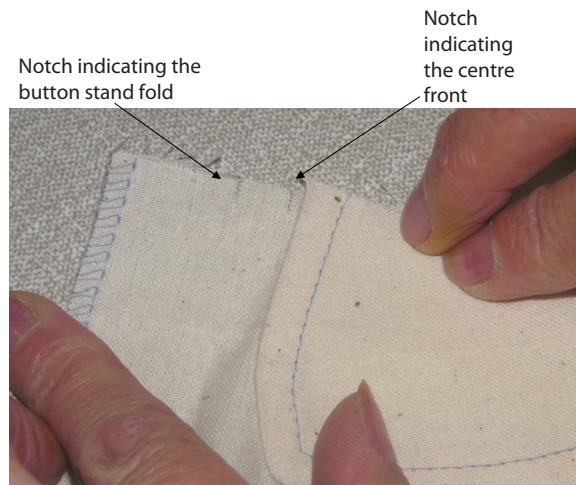

Figure 19
5. Create the garment neckline by joining both shoulder seams. Neaten the front edges using the Three Thread Overedge (504). Make a simple button stand by turning the button stand to the inside and press into position.
6. Working on the correct side of the garment, with the top collar facing uppermost, align the raw neck edge of the collar with the neck edge of the garment. Position the collar ends at the notches indicating the centre front line (see Figure 19).